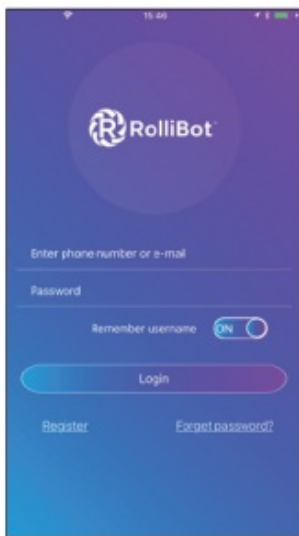

Figure 1
Step 2. Register for an account and return to the app (fig. 1).